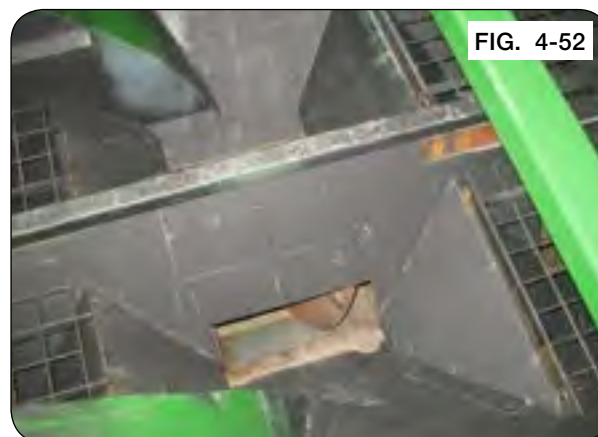

FIG. 4-52
2. Remove the flange screws in both middle grates inside the cart. Remove the grates. (Fig. 4-52)